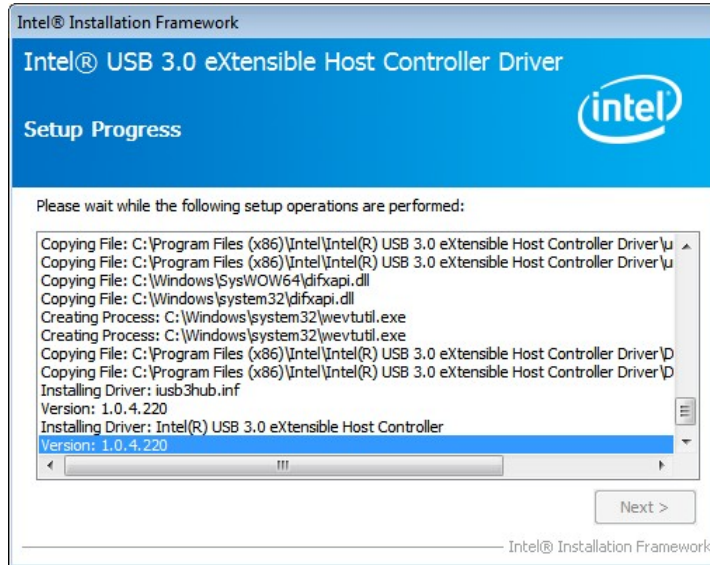

Figure 6-30: USB 3.0 Driver Setup Operations
Step 11: Setup Operations are performed as shown in **Figure 6-30**.